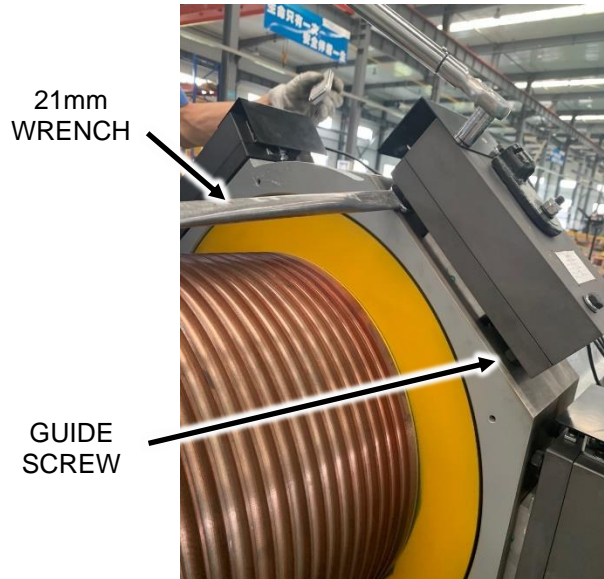

Figure 11
4. Rotate 4 guide screws clockwise, making sure they seat firmly on the base installing surface. Figure 11.
2. Rotate 4 guide screws clockwise, making sure they seat firmly on the base installing surface. Figure 11.